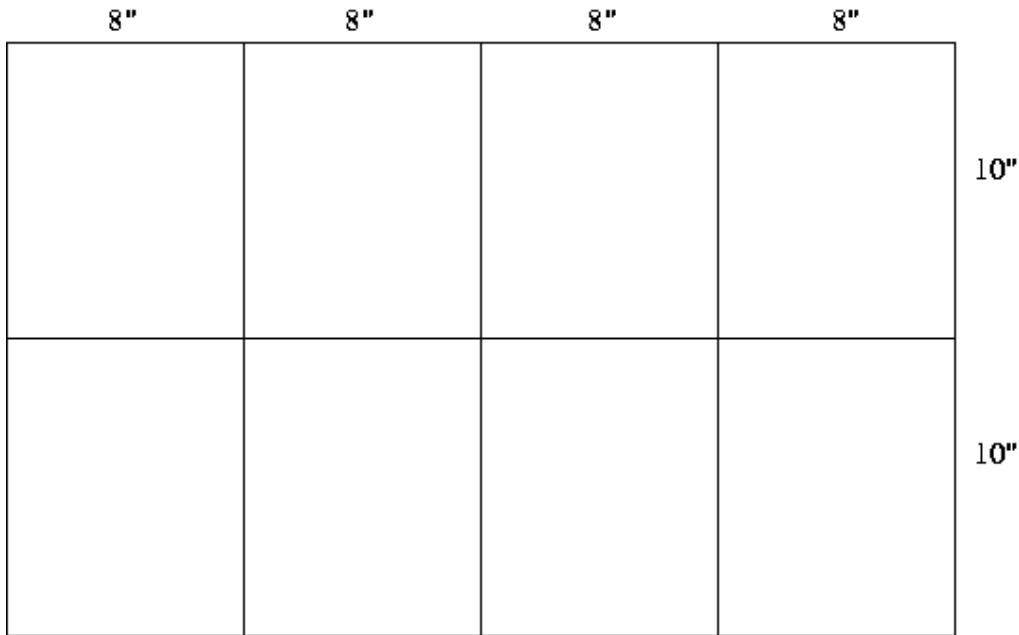

Figure 1: Layout for cutting a 32×20 mat board into individual 8×10 mats.
1. Measure and mark the mat board on the back before making cuts (Fig. 1).